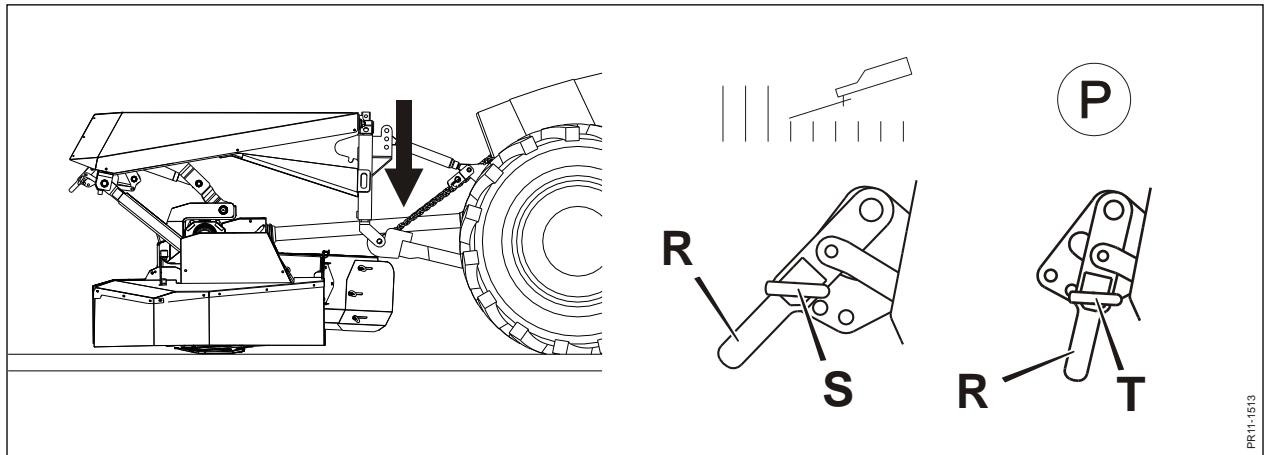

Fig. 2-14
**Fig. 2-14** When disconnecting the machine it must be placed in working position, the lifting cylinder must be in floating position and the handle **R** must be moved from pos. **S** to **T**. Disconnect the PTO shaft. When this is done, the A-frame must be released and lowered out of the headstock. Remember to disconnect the hydraulic hose, the PTO shaft and the straps for the canvas.